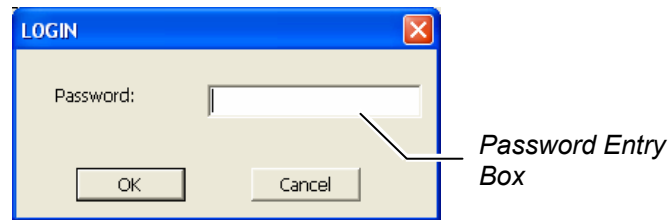

Figure 6-52 Password Login Box
4. The following Password Login dialog box appears (Figure 6-52). Click inside this box to access the virtual keyboard. An access level password equal or superior to 1 is requested to reset the alarms. Enter the **Password** to reset the alarms.